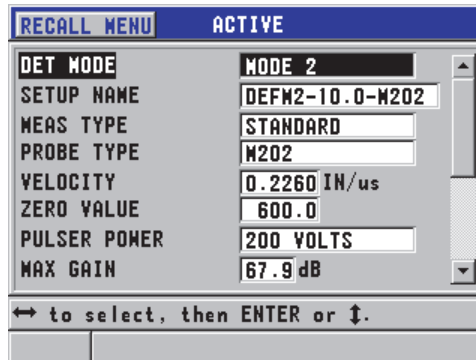

Figure 10-1 The ACTIVE screen for the setup of a single element transducer
5. In the **ACTIVE** screen (see Figure 10-1 on page 166):